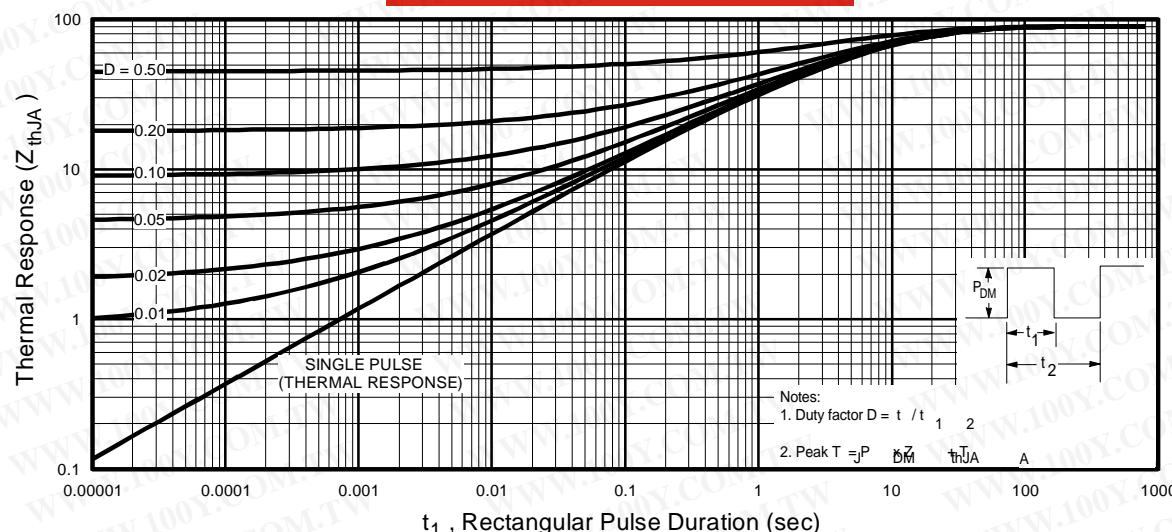

Fig 11. Maximum Effective Transient Thermal Impedance, Junction-to-Ambient
① Repetitive rating; pulse width limited by max. junction temperature. (See fig. 11)
② $I_{\text{SD}} \leq 2.6\text{A}$, $dI/dt \leq 100\text{A}/\mu\text{s}$, $V_{\text{DD}} \leq V_{(\text{BR})\text{DSS}}$, $T_J \leq 150^\circ\text{C}$
③ Pulse width $\leq 300\mu\text{s}$; duty cycle $\leq 2\%$.